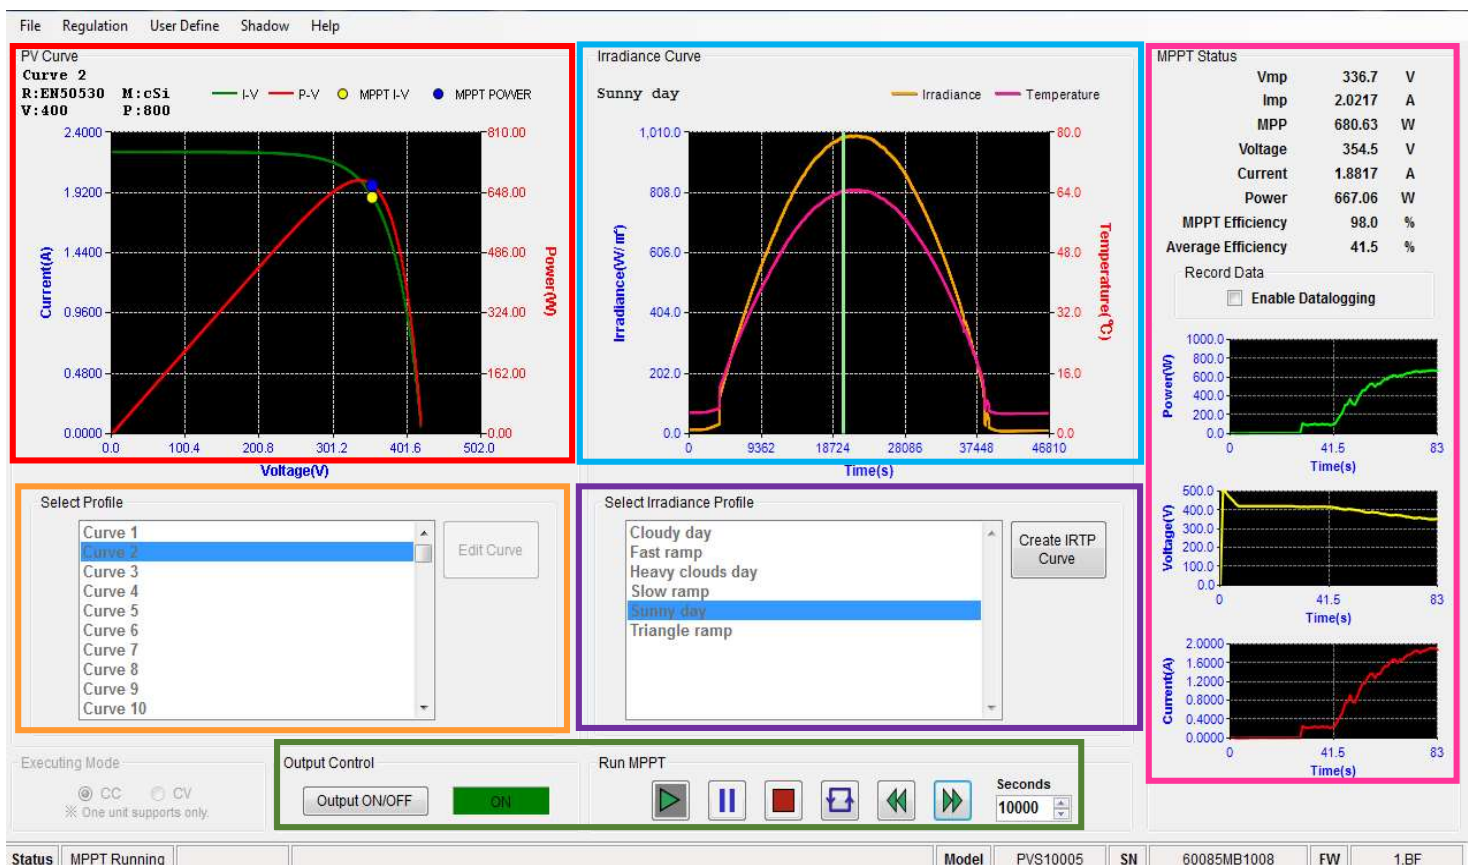

Figure 3 – PVS Dashboard
- The SAS Dashboard (Figure 3) has curves and profiles for the SAS software's most basic functionality.